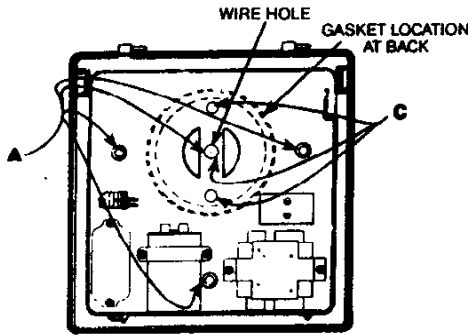

FIGURE 1.
- B. Punch out three (3) knockouts C in back of die-cast base. See Figure 1.
- C. From square pole installation kit, ML5621, take the nut plate, the two (2) lock washers and the two (2) 1/2" bolts. Line up the three (3) punched out knockouts in the die casting with the three (3) holes at the top of the pole. Holding the nut plate inside the pole, insert one bolt through a lock washer, then the top hole and thread it into the nut plate.
- E. Insert three (3) 18" wires from kit through wire hole, between the two mounting bolts and up through the top of the pole.
2. Loosen four (4) screws securing reflector assembly and slide sideways off keyholes and lampholder.
3. Punch out four (4) knockouts **A** in back of die-cast base. (See Figure 1.)
4. Mark three (3) points on the wall at mounting location, using the luminaire base for a pattern.
5. Drill holes for three (3) 3/8" lag screws in wooden wall or drill and place anchors in masonry wall. (Lag screws or anchors not furnished.)
6. Peel paper backing from foam ring gasket (included in carton) and affix to rear of die-cast base inside raised ring, as indicated in Figure 1.
8. Bring field wires including ground (see label on fixture for wire type) through outlet box (provided and recessed into wall by contractor) and into luminaire through wire hole as indicated in Figure 1.